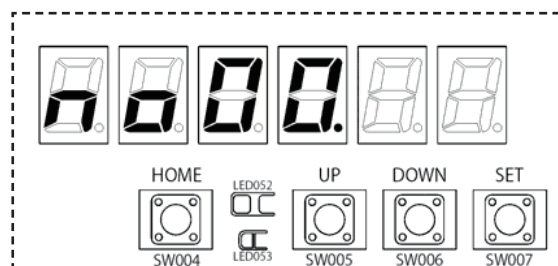

Figure 8
❶ Press the HOME (SW004) key to display the menu item number. “ ㄱ ㄴ ㄷ ㄹ ” (Figure 8)
❺ When in the forced test run setting mode, press the SET (SW007) key for longer than 1 second and the mode changes to cooling (heating) test run. At this stage check the following.
④ Stopping the test run